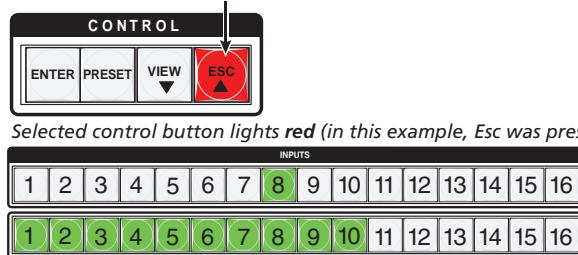

Figure 25. Adjusting the Input Audio Levels — an Example (Steps 5 and 6)
5. Press and release the View (▼) button for attenuation (-), and Esc (▲) button for gain (+) to increase or decrease the audio level (see figure 25).